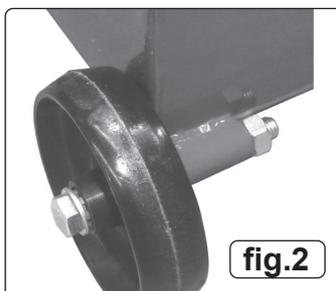

fig.2
- 4.2. **FIXED WHEELS (fig.2).** Insert the special axle bolts through each wheel so that the wheel is running on the roller bearing. Mount each wheel by pushing the axle bolt through each of the tubular axle mounts welded to the back, bottom edge of the casing. Secure each axle bolt with the M12 lock nuts provided.